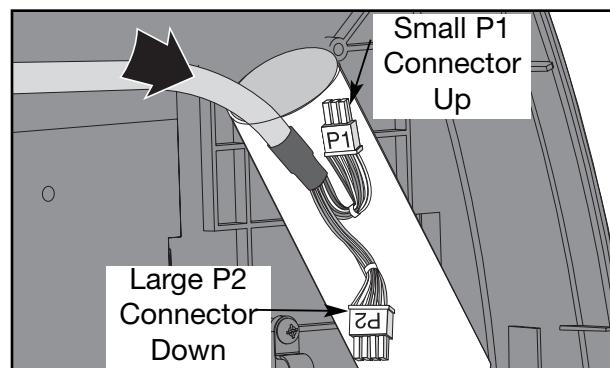

Figure 32
- B.** Push the P2 connector down into the top handrail hole with the P1 connector pointing up. See Figures 32 and 33.